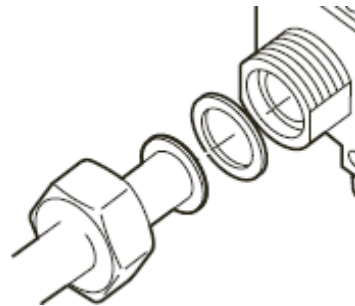

Fig. 6. External thread connection with nut and flat sealing ring
**With 3/4" nut and flat sealing ring for pipe 15 mm (fig. 6)**
**With 3/4" nut and flat sealing ring for pipe 18 mm (fig. 6)**